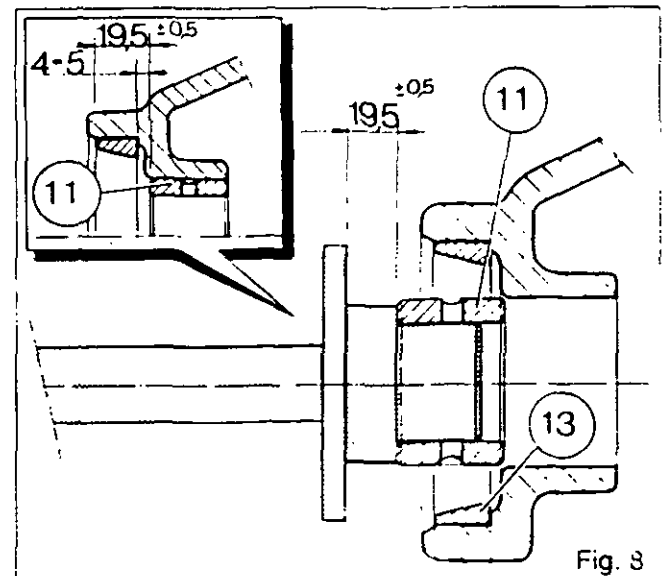

Fig. 8
55. Fit the cup (13) (if removed).
56. Fit the bush (11) with a locally made tool (see section E) so that the bush is positioned 4 to 5 mm back from the rear face of the cup (13) (Fig. 8). Ensure that a hole in the bush aligns with the feed channel in the centre housing.
57. Fit the seal (24) in the cap (22).